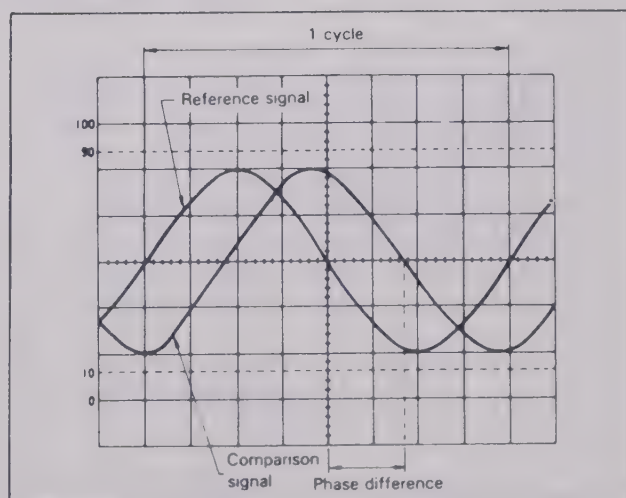

Fig. 18. Phase Difference Measurement.
(Refer to Fig. 18)
1. Apply the two signals to the **CH 1 (X)** and **CH 2 (Y)** input jacks, selecting the dual-trace display mode.
3. Use the $\blacktriangle$ **POS** controls to position the waveforms in the vertical center of the screen. Use the **TIME/DIV** and **SWEEP/VAR** controls to adjust the display so one cycle of the reference signal occupies 8 divisions horizontally (see Fig. 18). The trigger **LEVEL** and $\blacktriangleleft$ **POS** controls are also useful in achieving this display. The display should be as shown in Fig. 18, where one division now represents 45° in phase.
For the example shown in Fig. 18, the horizontal distance is 1.7 divisions. Thus, the phase difference is calculated as follows: